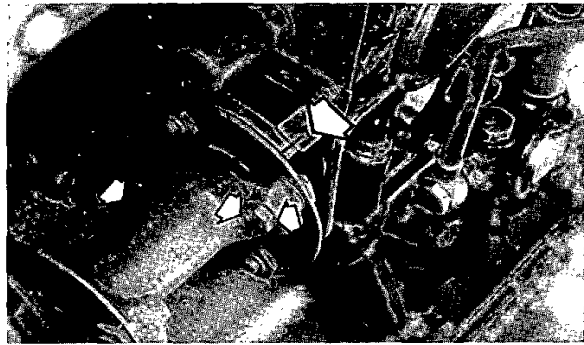

Fig. 126. Pump coupling, 70 series (protector plate removed)
4. Rotate the pump shaft so that the line-up mark on the shaft flange coincides with the line-up mark on the pump end adjusting plate (fig. 126), or is placed right against the adjusting plate if line-up mark is missing (new pump).
6. Push back the pump coupling on the drive shaft and join together the coupling intermediate part with the pump flange. Make sure that the dished washers are placed between the rear flange of the coupling and the steel discs. Tighten up the bolts (fig. 126). **NOTE! The nuts must be kept steady** in order not to damage the steel discs.
6. **70 series:** Remove the guard plate over the pump coupling and unscrew the bolts (fig. 126) on the pump coupling. **NOTE!** The nuts must be held steady in order not to damage the steel discs.